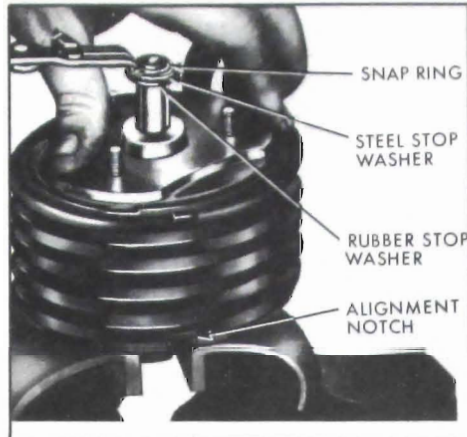

Figure 9-27—Removing Snap Ring
washer from guide sleeve. **CAUTION:** Use care to avoid damaging retaining ring by opening too wide. Discard rubber stop washer. Figure 9-27.
1. Carefully clamp valve housing in padded jaw vise in such a position that alignment mark (see Figure 9-27) is clearly visible.
8. Still holding mounting hub assembly down against return spring, place new rubber stop washer, then steel stop washer, over guide sleeve. Install retaining ring, being sure it is seated properly in its groove. Refer to Figure 9-27.